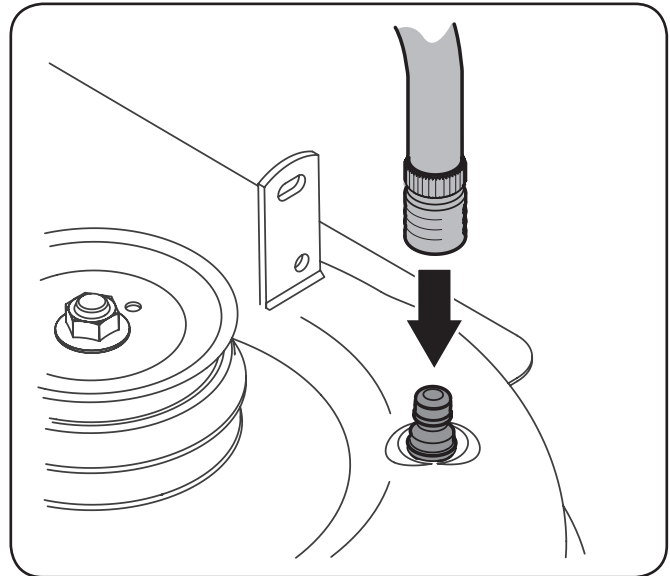

Figure 6-3
3. Attach the hose coupler to the water port on your deck's surface. See Figure 6-3.